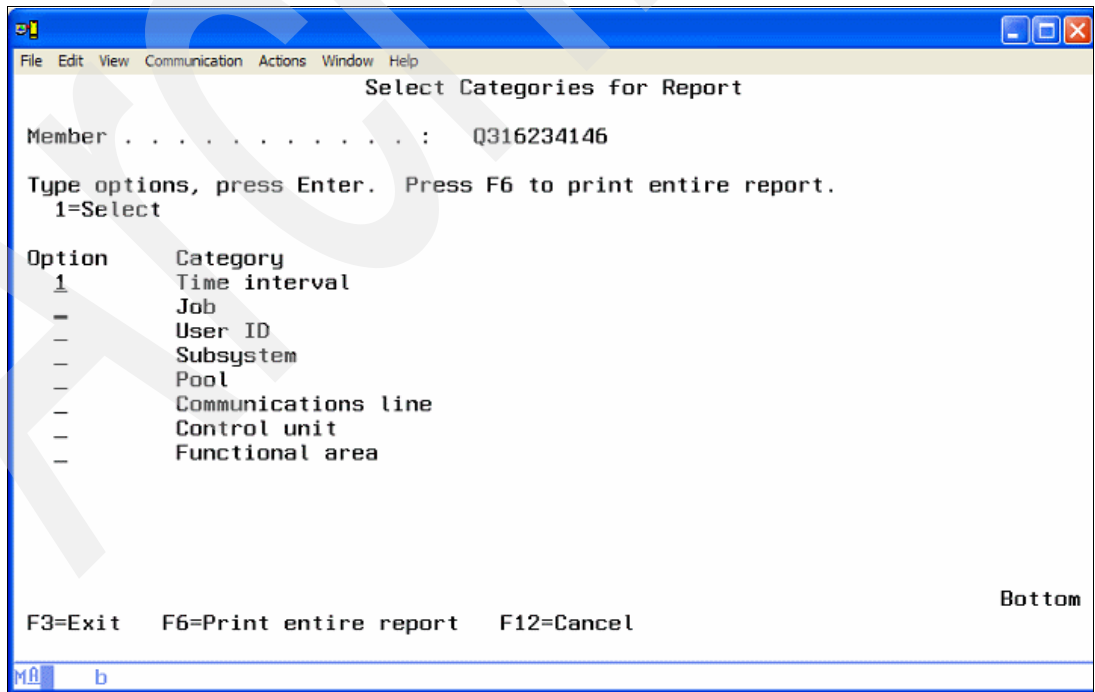

Figure A-24 Select Categories for Report panel
3. On the Select Categories for Report panel (Figure A-24), choose the data filter to use. We use the Time interval category to generate the report.
3. In the Select Categories for Report panel (Figure A-24 on page 467), choose the data filter to use. We use the Time interval category to generate the report.